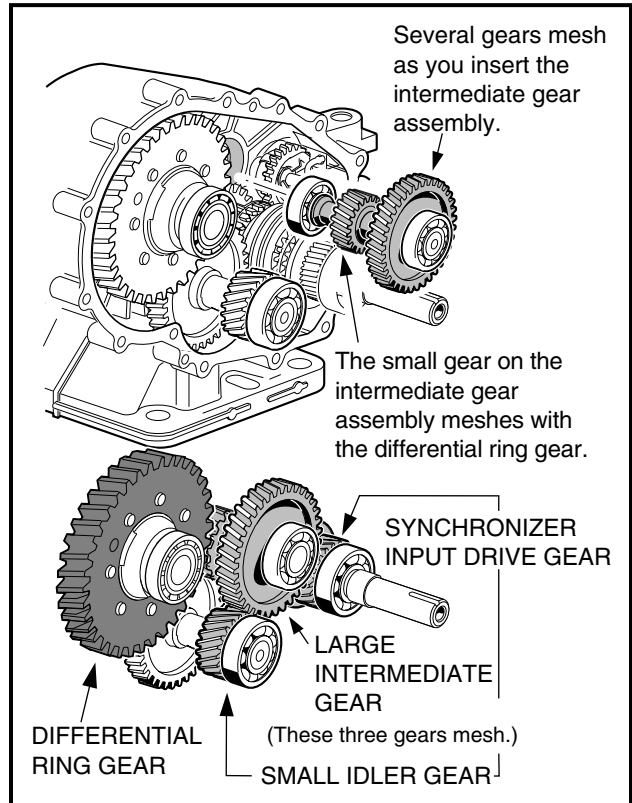

Figure 5-50 Gear Alignment
- 7.5. Install the intermediate gear assembly into the case (**Figure 5-50, Page 5-24**). Do not seat the assembly into the bore, instead make sure the output ring gear meshes with the input drive gear (52) on the synchronizer gear assembly and with the small gear on the idler shaft (65) (**Figure 5-11, Page 5-7**).